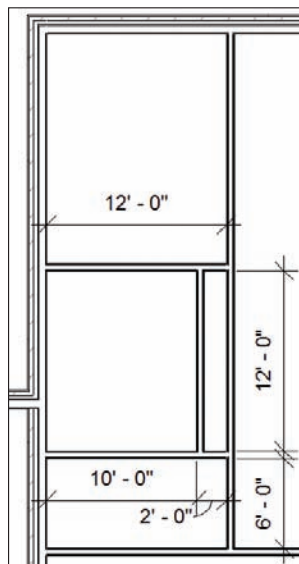

FIGURE 2.37 The lavatory at the west side of the building
The next step is to get the lavatories in. These will show up at the west end (left side) of the building. Refer to Figure 2.37 for the dimensions and follow along:
2. Look at your options, and create the lavatories shown in Figure 2.37. All of the dimensions are taken from finish inside face.